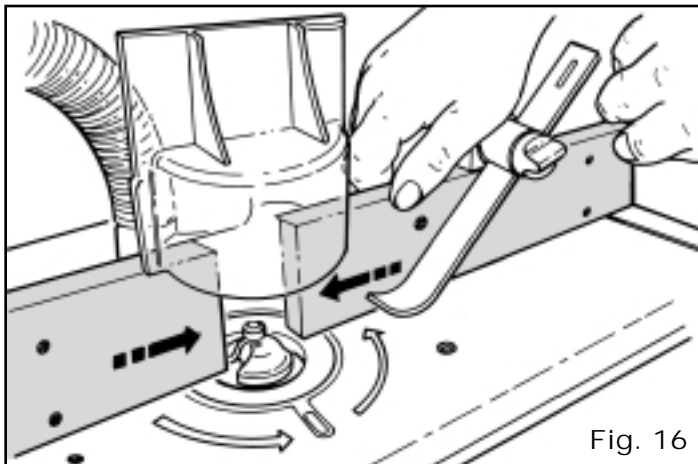

Fig. 16
- **When using narrow cutters or when working on small components, slide the MDF fence faces toward each other** until they just clear the cutter. This provides maximum support for the workpiece, close to the cutter. **Fig. 16**